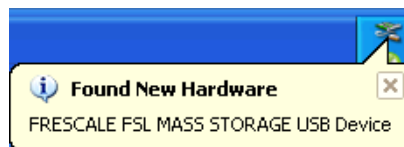

Figure J-8. Find new hardware callout
2. Plug USB loader device in to the PC (host). As soon as, you turn on the device, it is recognized by the host and is installed automatically. You must see the callout as shown on the right bottom corner of your screen as shown in Figure J-8.